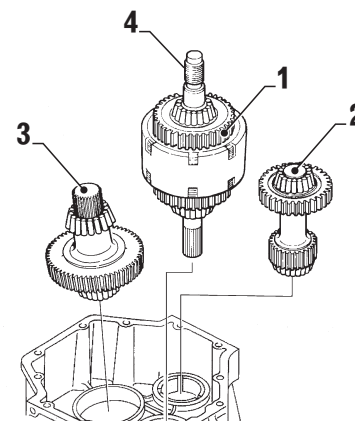

FIG. 6-2
- Intermediate shaft (item 2, Fig. 6-2).
- Input shaft (item 1, Fig. 6-2).
- Output shaft (item 3, Fig. 6-2).
Check all gears, bearings and three piston rings on the input shaft (item 4, Fig. 6-2) for signs of wear or failure. If any of the gears are damaged or showing signs of excessive wear ZF HURTH MARINE recommends replacing the complete gear set.